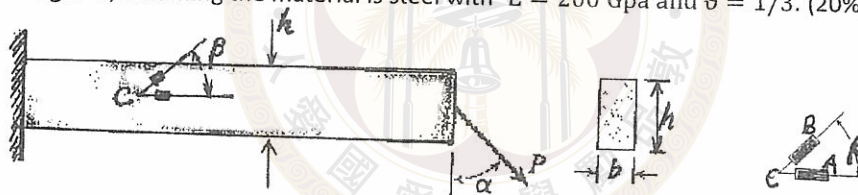

Figure 2
2. A cantilever beam of rectangular cross section (with $b = 25\text{mm}$, height $h = 100\text{mm}$) is loaded by a force P that acts at the midheight of the beam and is inclined at an angle α to the vertical (see figure 2). Two strain gages are placed at point C, which also is at the midheight of the beam. Gage A measures the strain in the horizontal direction and gage B measures the strain at an angle $\beta = 60^\circ$ to the horizontal. The measured strains are $\epsilon_a = 125 \times 10^{-6}$ and $\epsilon_b = -375 \times 10^{-6}$. Determine the force P and the angle α , assuming the material is steel with $E = 200\text{ Gpa}$ and $\nu = 1/3$. (20%)